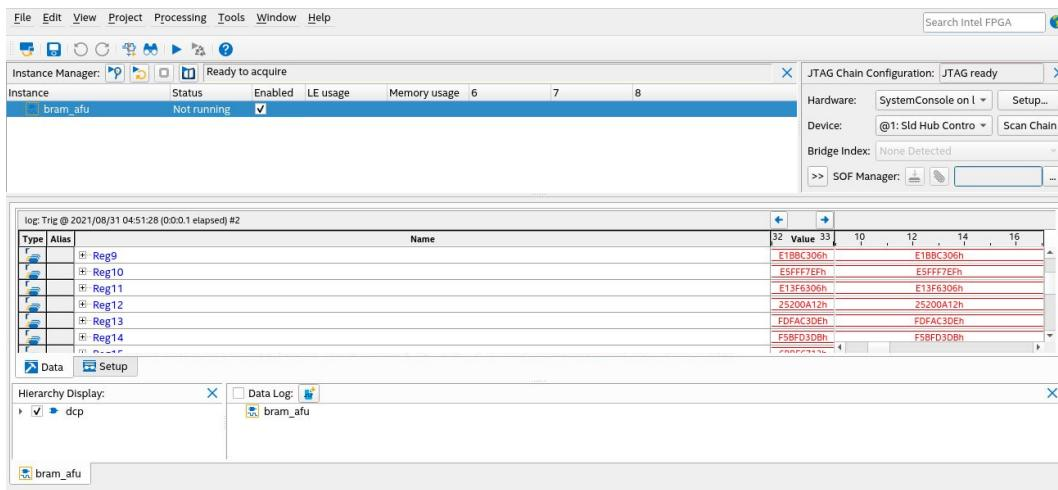

Figure 58: Signal Tap GUI
– Open Signal Tap GUI. Fig. 58 and 59 show the VexRISC-V core is debug using signal tap. Here, we monitor the VexRISC-V 32-bit register content. When the assembly code is loaded into BRAM, then VexRISC-V starts execution by reading the instruction fromBRAM address space. Once execution is finished, the respective register content is updated.